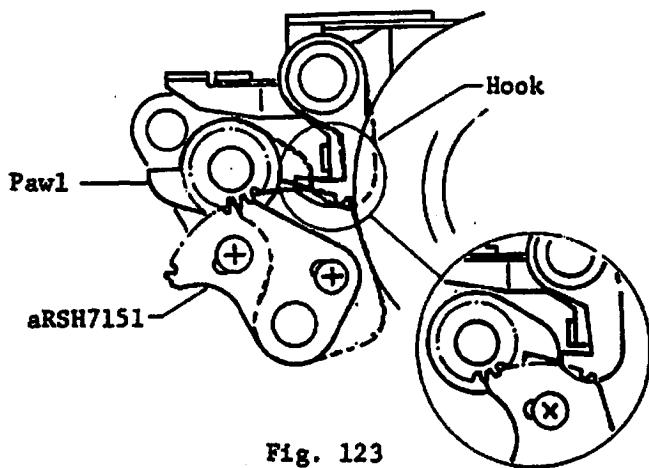

Fig. 123
- 3) Confirm that Pawl shall return to its original position when pushing Sector gear (aRSH7151) with a finger just before Hook catches Pawl, and release the finger as shown in Fig. 123